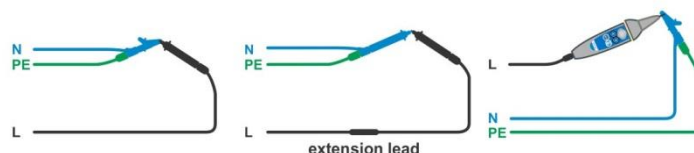

Figure 7.24: Shorted test leads
- › Connect test cable to the instrument and short the test leads together, see **Figure 7.24**.